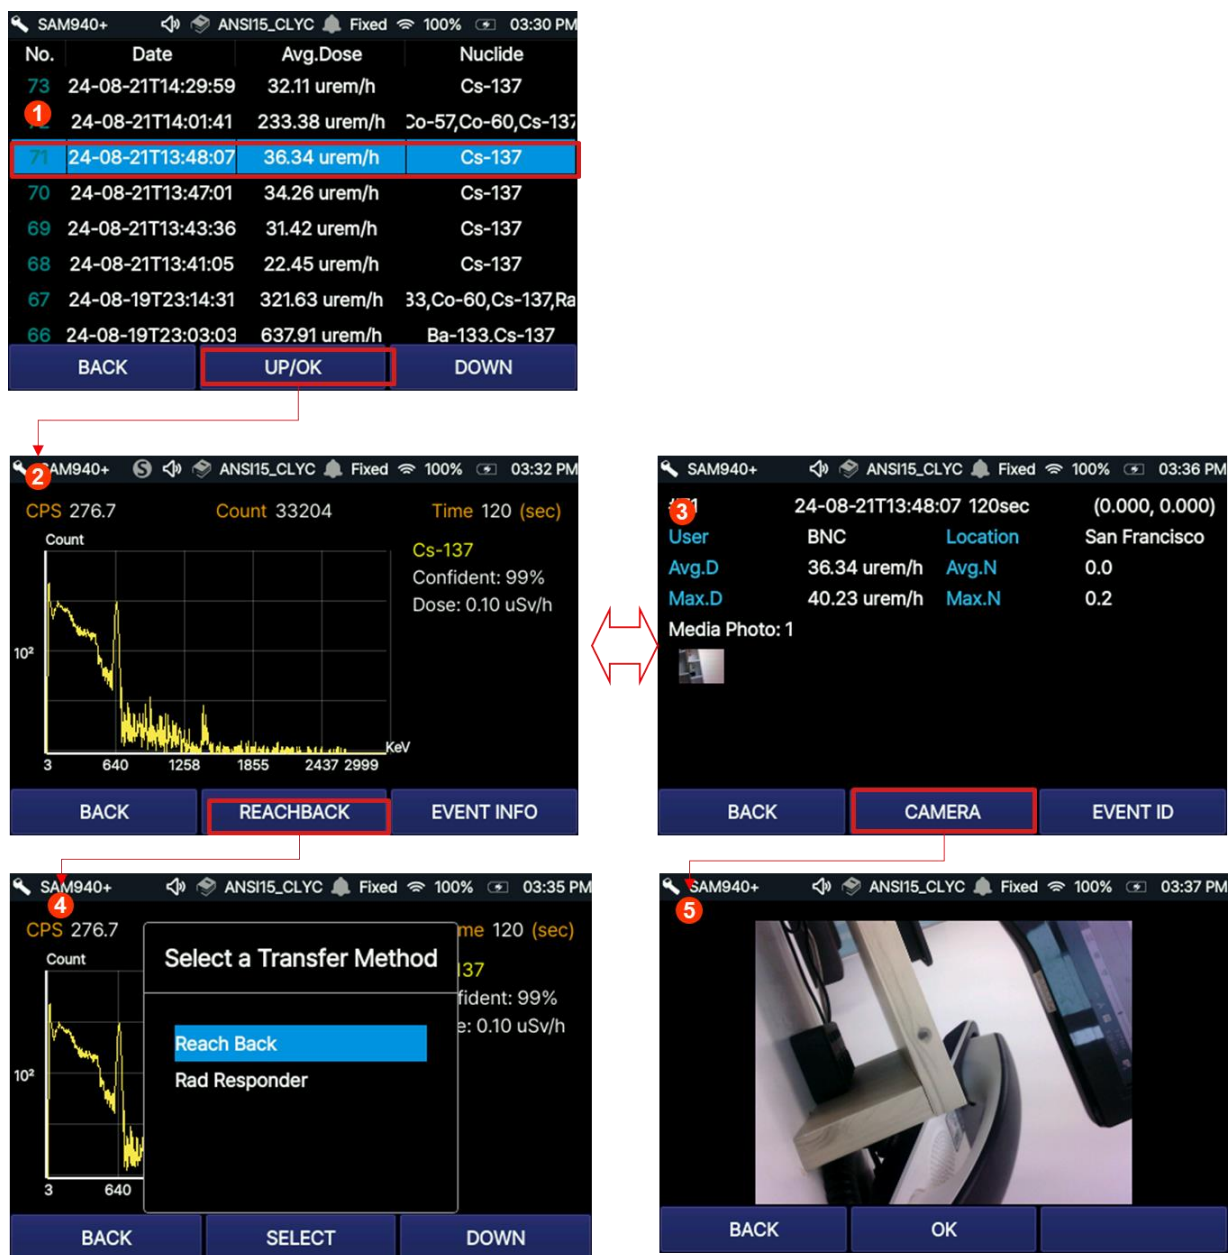

Figure 6.1.2. EVENT ID and EVENT INFO screen
2. To locate an Event, scroll up/down using the function button and select desired event by press OK button (hold for 2 seconds). Refer to figure 6.1.2.